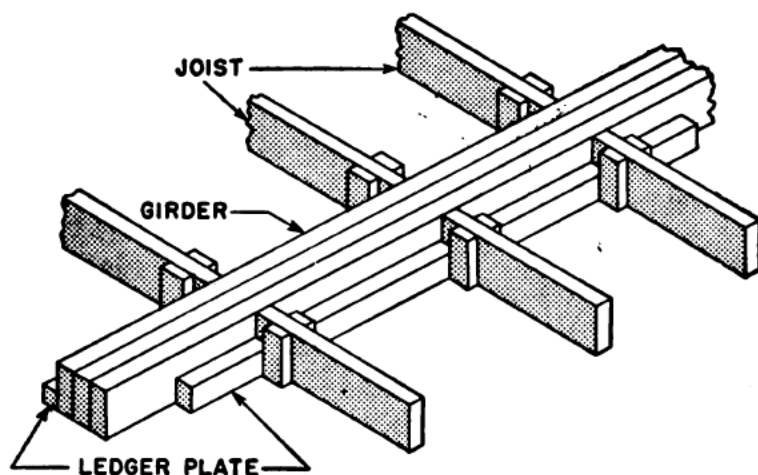

Figure 17.—Girder.
**JOISTS** are illustrated in figure 17. As you can see, joists are the framing members that support the floor and ceiling. In a two story building the ceiling joists would also support the second floor.
A **GIRDER** (fig. 17) is a timber or iron beam, either single or